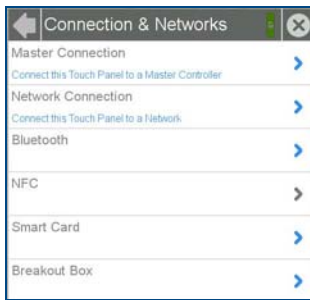

FIG. 5 CONNECTION & NETWORKS PAGE
- Enter the panel password into the keypad (the default is 1988) and select **OK** to access the page (FIG. 5).